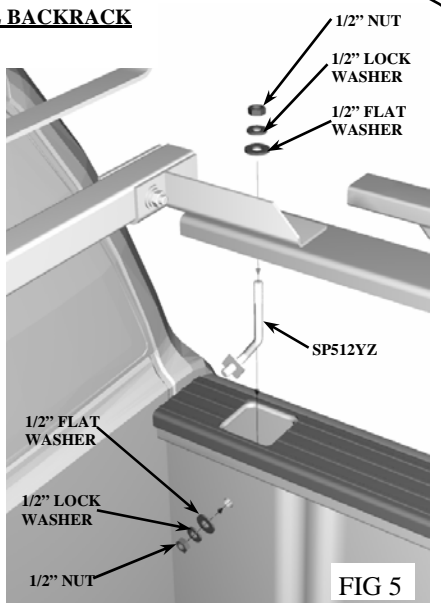

FIG 5
- Insert SPB512YZ (picture on reverse) from the RealTruck Backrack hardware bag into the two front stake pockets as outlined in Figure 5. Thread the 3/4" nut with lock washer and washer onto the 3/4" stud of the stake pocket bolt. Tighten all stake pocket bolts facing truck bed. Discard the remaining HWB044 which will not be required, since the front stake pocket hardware will be used from the RealTruck Backrack.